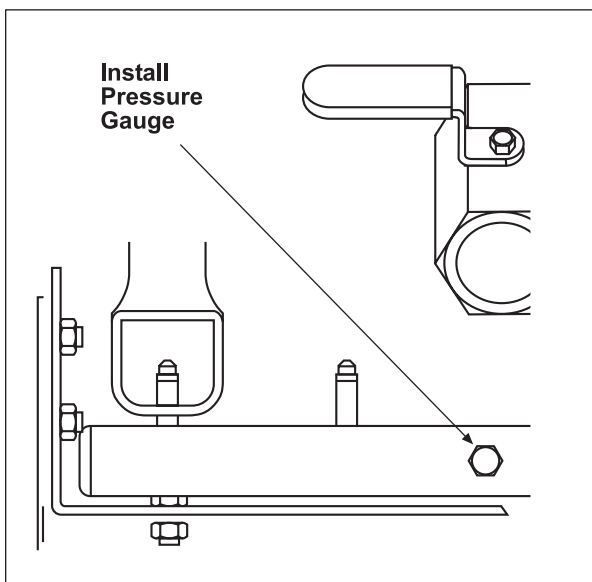

Figure 24
2. Remove the plug from the submanifold and install pressure gauge at this point (Figure 24).